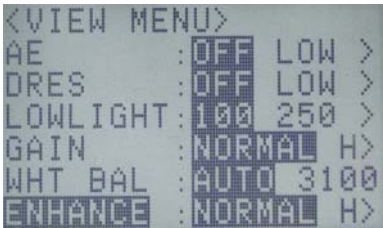

Figure 3-55 ENHANCE(VIEW MENU)
- 2) Use the arrows   to select "ENHANCE" from the VIEW MENU. (Figure3-55)